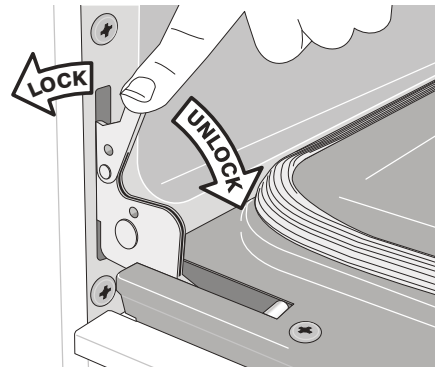

Figure 2
4. Push the door hinge locks up towards and into the oven frame on both left and right oven door hinges (See Figure 2) to the locked position.